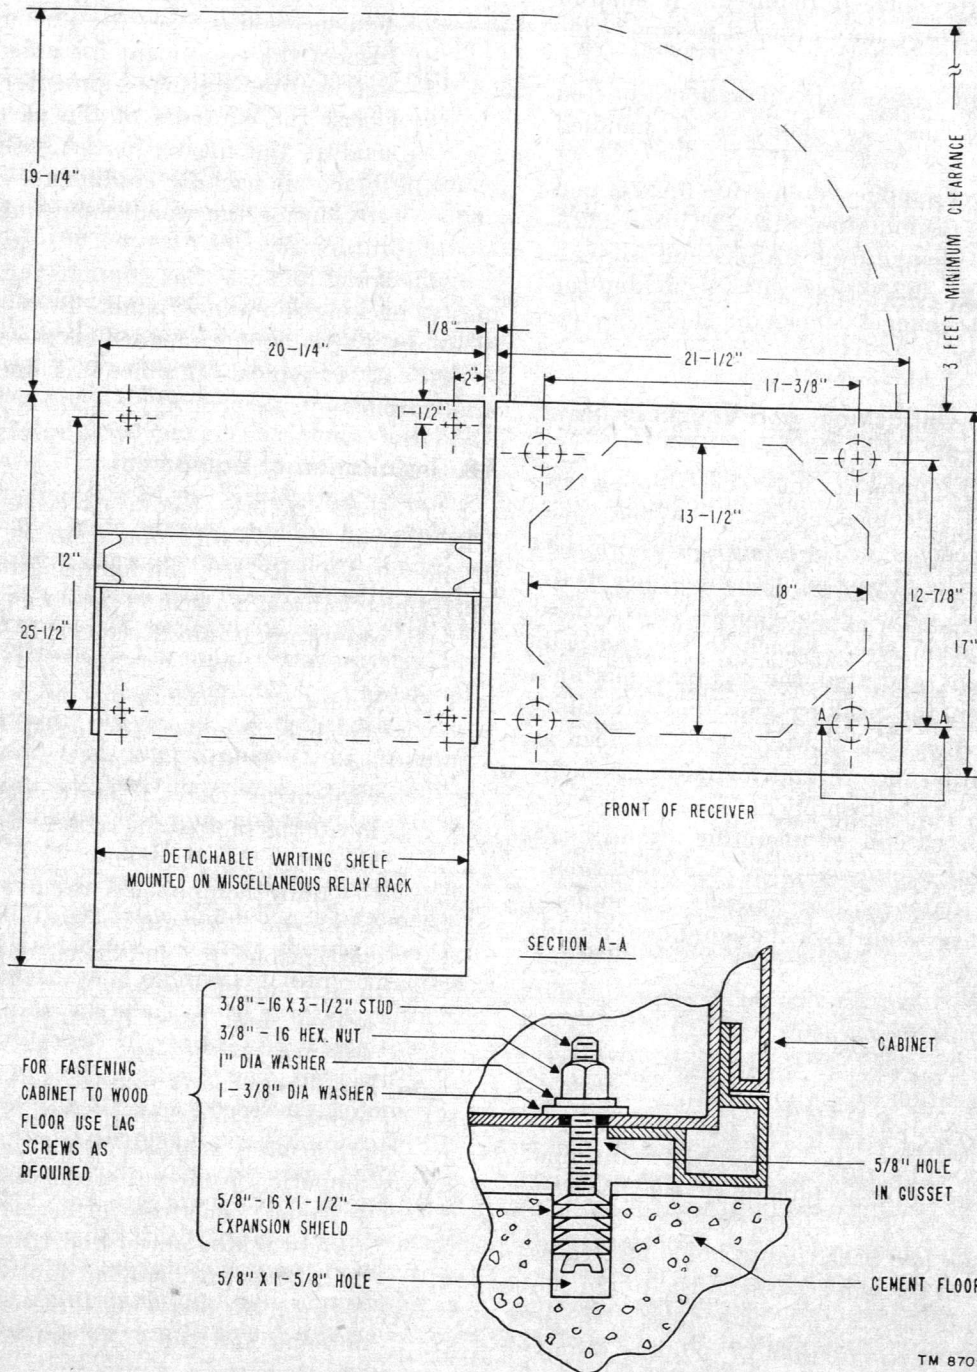

Figure 16. Floor plan for mounting of Radio Receiver R-369/FRC-10 and miscellaneous relay rack bay.
- (1) The floor must be capable of sustaining the weight of the equipment (approximately 800 pounds) in a level position without vibration. If vibration occurs, the receiver may be detuned sufficiently to cause the afc squelch circuits to operate. Excessive vibration may detune the receiver enough to cause the CARRIER OFF FAST and CARRIER OFF SLOW lamps to light. An example of a good foundation would be a concrete pier that extends through, but not supporting, a wooden floor. The pier should rest on solid ground.
- (2) Sufficient space must be allowed behind the receiver so that the door may be opened by personnel standing behind the receiver. Sufficient operating space must be allowed in front of the receiver (fig. 16).
- (3) Adequate lighting for day and night operation must be provided. Position the receiver so that, under artificial lighting conditions, glare reflected from the meter faces and dials to the operating personnel is minimized.
Before securing the radio receiver cabinet to the floor, be sure to leave adequate space, indicated on the floor plan (fig. 16), to open the rear door.
- (1) Mark the center points of the four mounting holes on the cement floor.
- (2) Use a $\frac{5}{8}$ -inch star drill and hammer to drill the holes.
(3) Move the receiver into place so that the holes in the floor of the receiver are centered over the holes in the cement floor.
- (4) Bolt the receiver to the floor, using the hardware listed in A-A, figure 16.
Before mounting the miscellaneous relay rack bay, refer to figure 16.